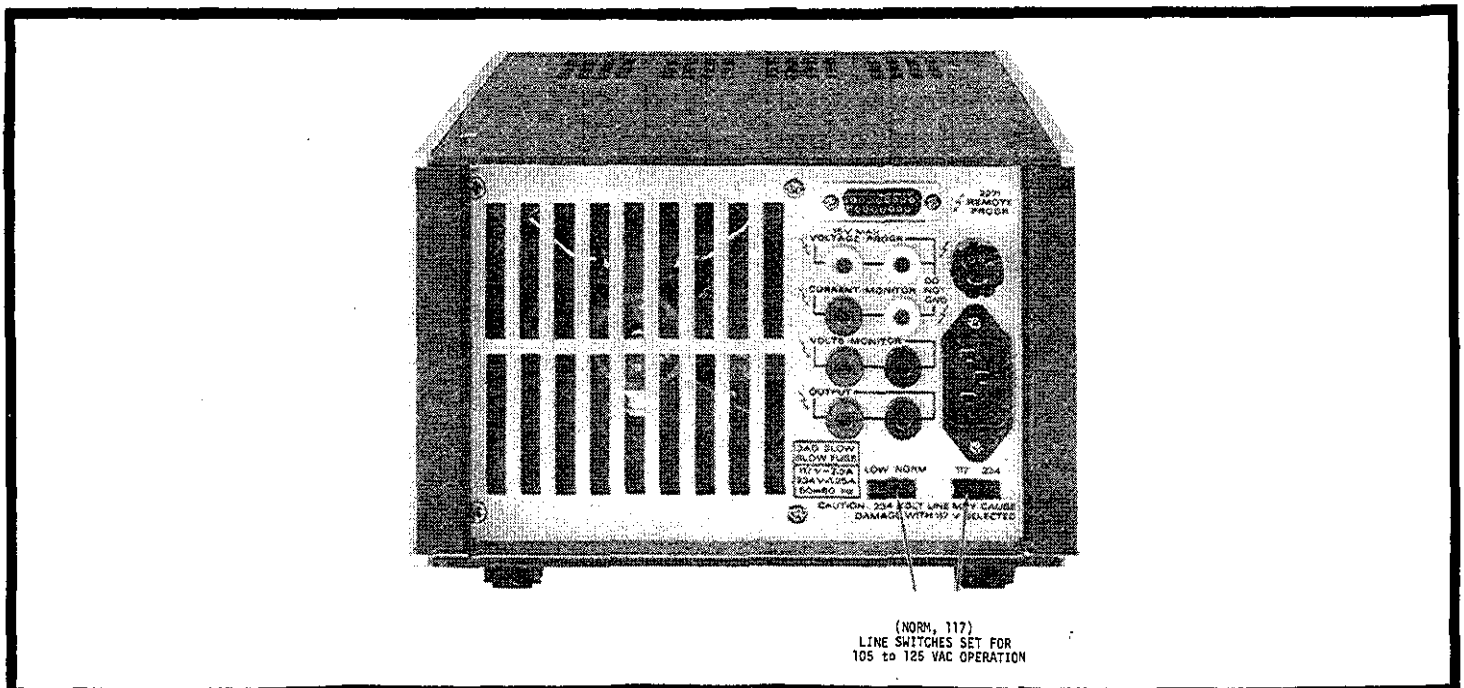

FIGURE 2. Rear Panel Showing Line Switches.
a. **How to Set Line Switches.** The Model 227 has two rear panel line switches which are used to select line voltage ranges of 90-110V, 105-125V, 195-235V, or 210-250V as shown in Figure 2. The line switches are identified as 117/234V (S303) and LOW/NORM (S302). Once the line voltage to be used has been determined, then the line voltage range should be selected from the four ranges available on the Model 227. For example, when the line voltage to be used is within the range from 105 to 125 volts, then the line switches should be set to "117V" and "NORM" positions. If the line voltage to be used is within either of two overlapping ranges, such as 107 volts, then either range may be selected (117V, LOW, or 117V NORM, for this particular example). Line voltages which are not covered by any one of the four ranges require an appropriate step-up or step-down transformer.
b. **Line Fuse Requirements.** The Model 227 uses a 2-1/2A 3AG slo-blo fuse for the range 90-125V and a 1-1/4A line fuse for the range 195-250V. The Line Fuse is located on rear panel as shown in Figure 2.